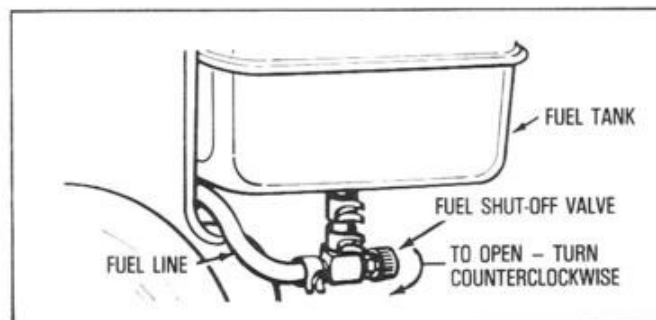

Figure 4
E. Be sure FUEL SHUT-OFF VALVE (if so equipped) is open (see Figure 4).
③ AFTER ENGINE IS STOPPED:
- Close **FUEL SHUT-OFF VALVE** (if so equipped). (See Figure 4).